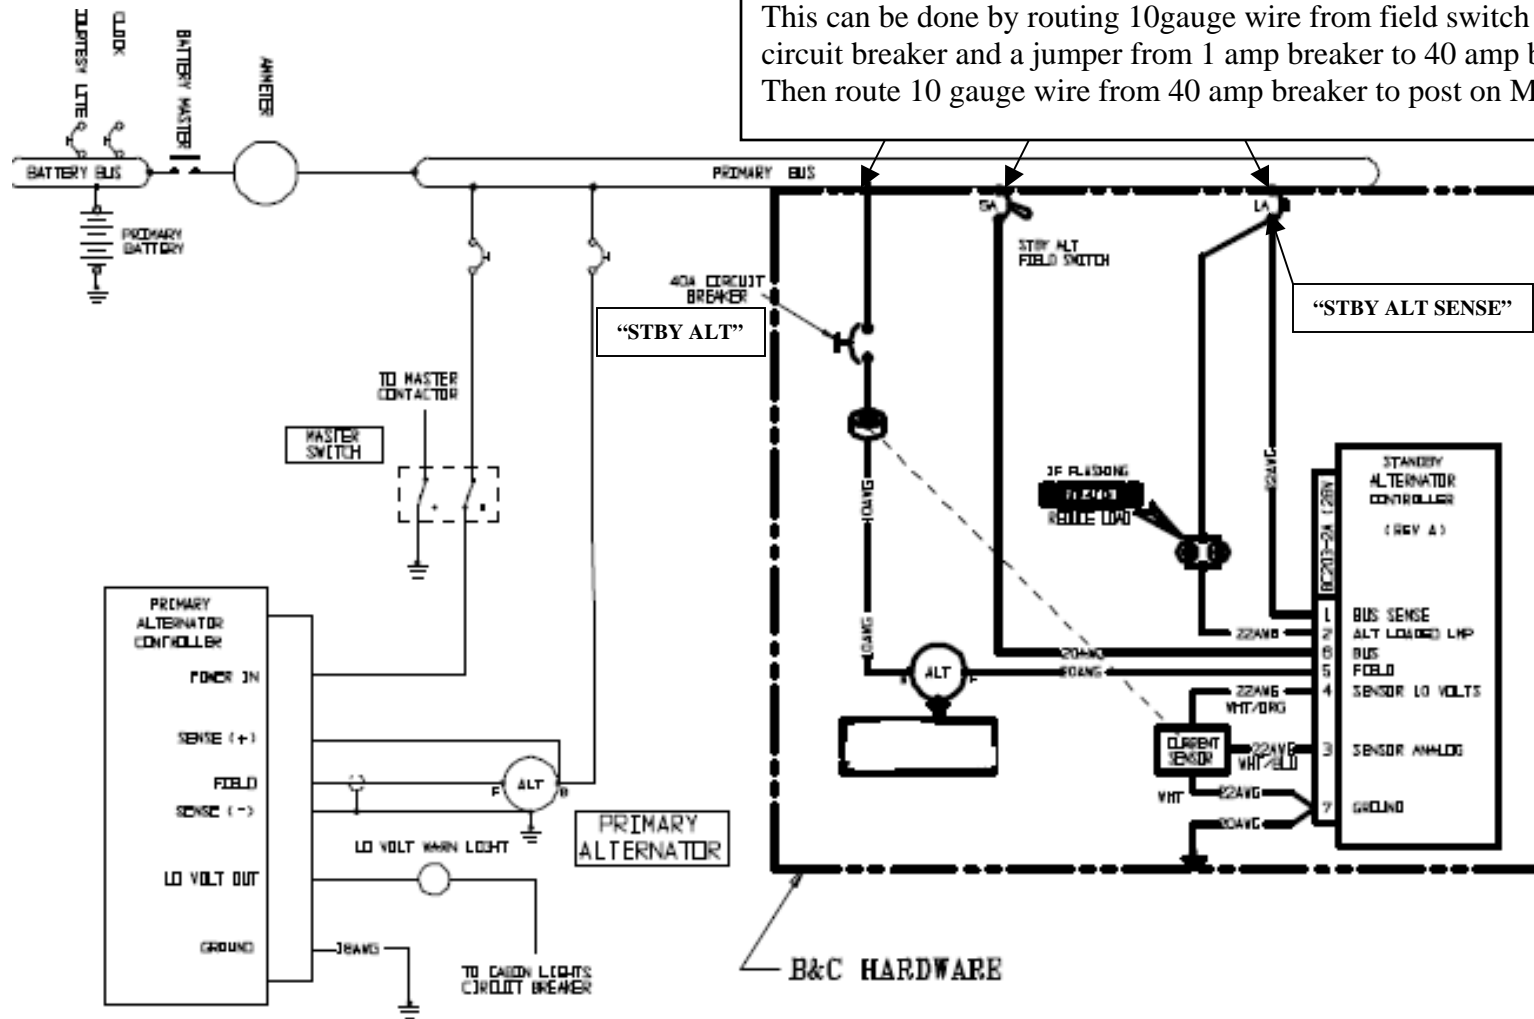

FIGURE 4
7. Reference Illustrations IX and XI for the installation of the 425-205 Annunciator. The Annunciator is mounted approximately 15/16in (+/- 1/8in) from the edge of the PFD panel cutout as depicted by the RED arrow in illustration IX. The Annunciator is mounted approximately 2in (+/- 1/8in) from the bottom of the top left instrument panel screw as depicted by the RED arrow in figure XI. Then Utilizing the drawing shown in Figure 2 for the Annunciator Cutout cut hole install the annunciator. Ensure that the Glareshield does not obstruct the pilot's view of the annunciator. Re-install switch panel assembly only after all wiring terminations have been completed according to Figure 4. Place 410-401 placard for the annunciator in the vicinity of the STBY ALT switch as depicted in Illustration X.
10. Terminate all wiring routed to component locations in the installation instructions per Figure 4. Reference Figure 3 for terminal post location and definition of the Standby Alternator Controller terminal posts.